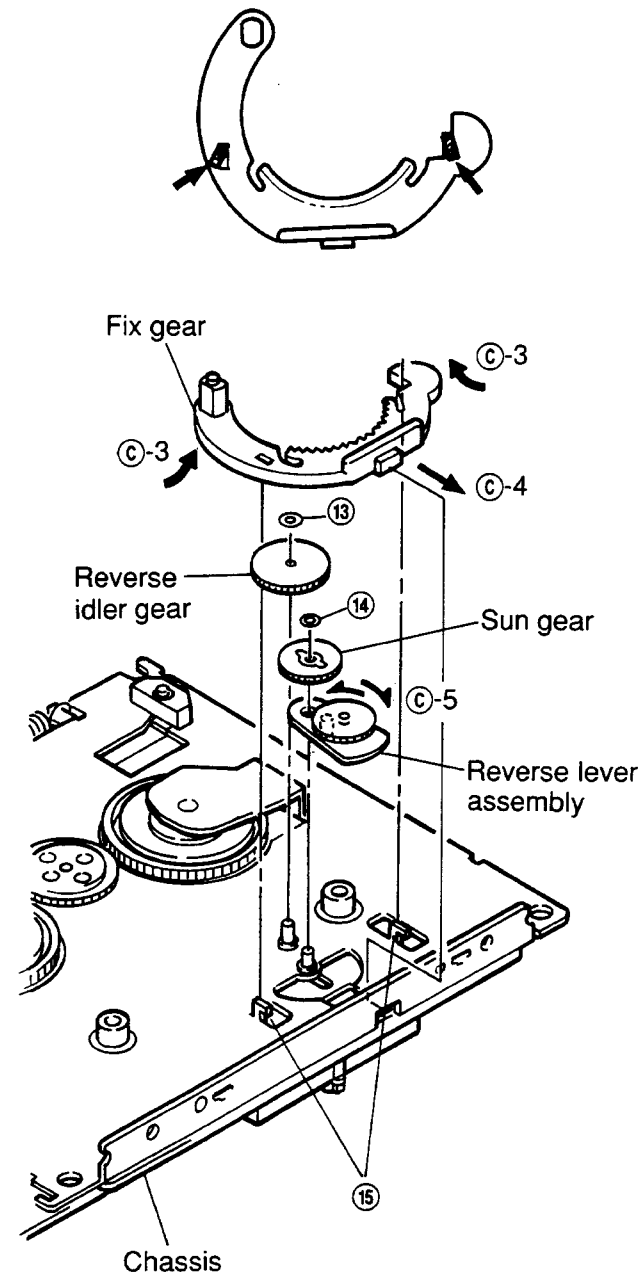

Figure 13
- (1) Remove M1.2 lock washer ⑬, pull it up from the stud of the chassis and remove the gear as shown in Figure 13.
- (2) Remount following the removal steps in the reverse order.
- (1) Remove M1.2 lock washer ⑭, pull it up from the stud of the chassis and remove the gear as shown in Figure 13.
- (2) Mount it, following the removal steps in the reverse order.
- (1) Adjust the two mounting claws for the fix gear on the chassis ⑮ and remove the section C-3 of the gear by pulling it up in the direction of the arrow shown in Figure 13.
- (2) Insert the section C-4 of the new gear into the chassis, and mount it following the removal steps in the reverse order as shown in Figure 13.
- (1) Remove both the fixing gear and the sun gear and remove the reverse lever assembly as shown in Figure 13.